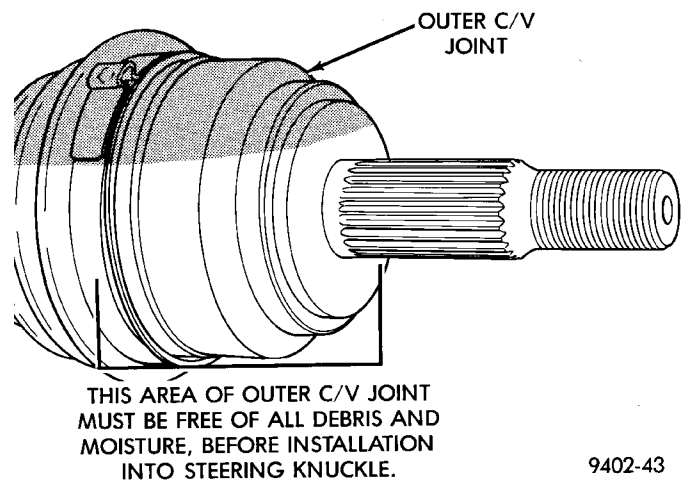

Fig. 17 Outer C/V Joint Inspection
(5) Ensure that front of outer C/V joint, which fits into steering knuckle (Fig. 17), is free of debris and moisture before assembling into steering knuckle.